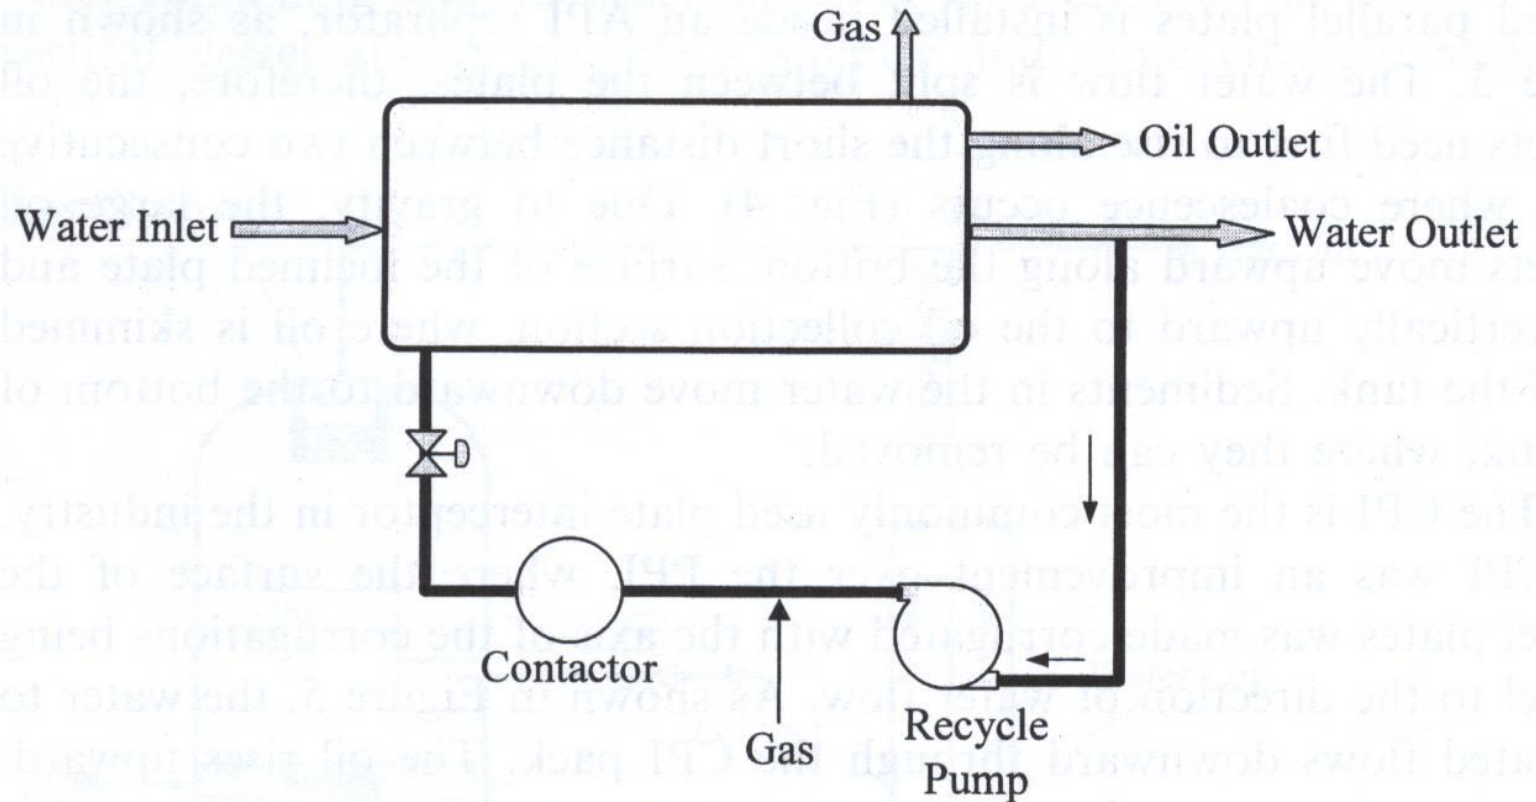

Figure 5 The corrugated plate interceptor.
- Corrugated plate interceptors (CPI) (Fig. 5)